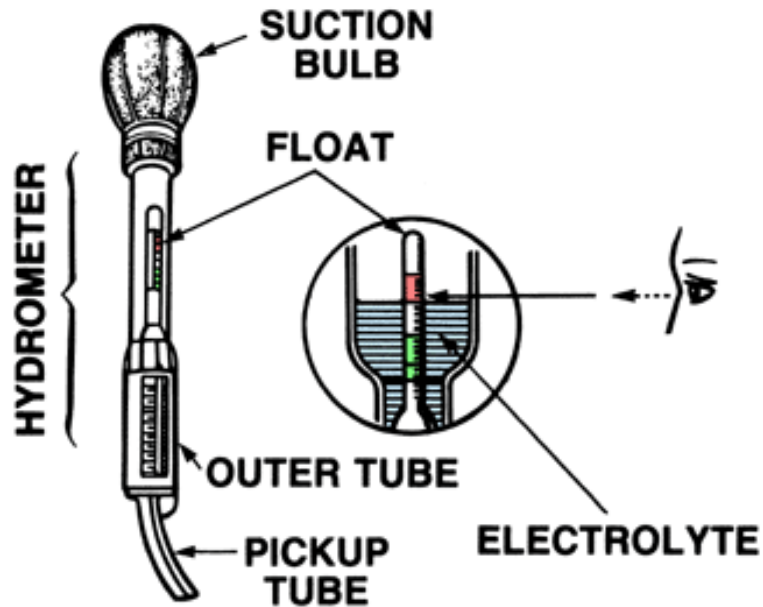

Figure 8
- Squeeze the hydrometer suction bulb (Figure 8) and insert the pickup tube into the cell closest to the battery's positive (+) terminal;